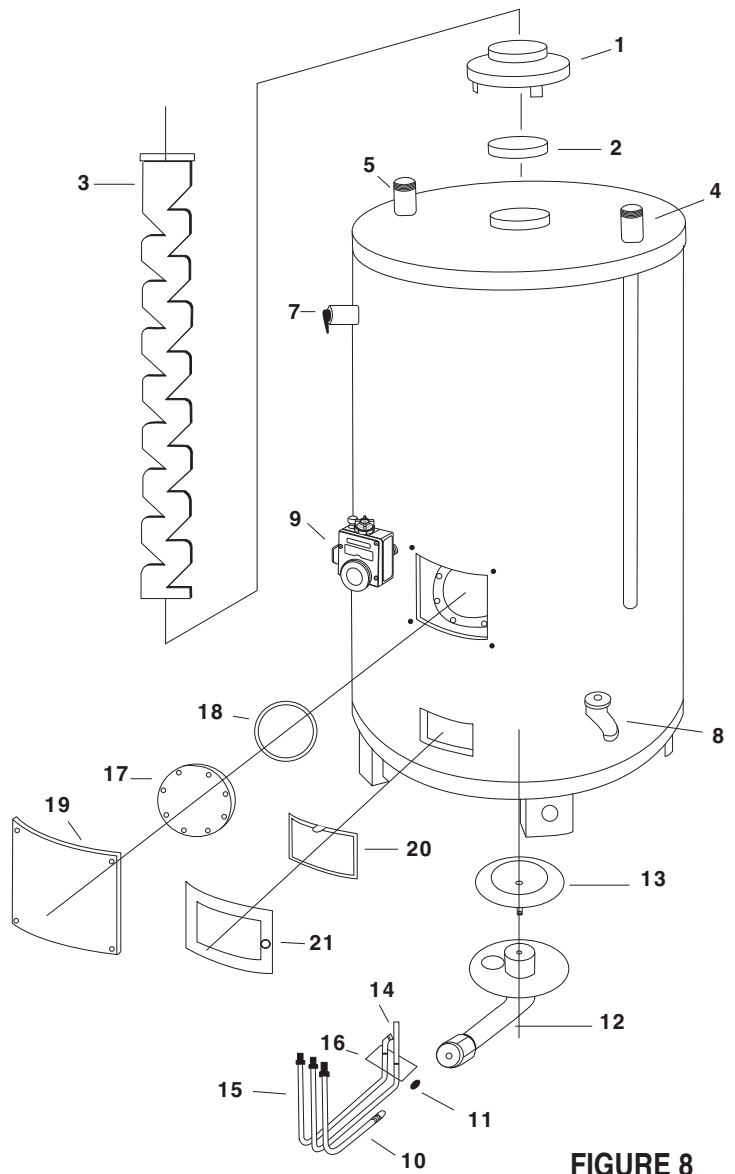

FIGURE 8
4. Remove No. 8-32 screw holding pilot assembly and pilot shield (if provided) to main burner (Figure 8, Page 16).
5. Re-install replacement pilot assembly to main burner making sure that pilot shield (if provided) is in the right location. (Figure 8, Page 16).